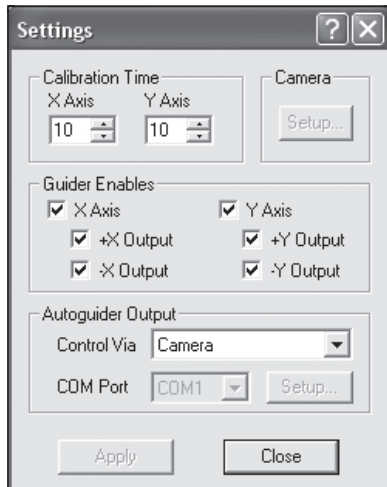

Figure 13. The autoguider **Settings** window controls the **Calibration Time** in each axis, movement in both axis, and the **Autoguider Output** connection to your mount.
6. Maxim DL Essentials needs to know how fast the telescope moves in right ascension (R.A.) and declination (Dec.) when the autoguider commands are issued. To do this, the software will calibrate the mount by moving it back and forth on each axis. The **Calibration Time** determines how long it activates the motors each time. The default value is 10 seconds. Make sure all of the **Guider Enables** boxes are checked (Figure 13).